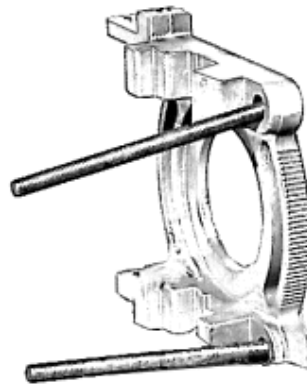

Figure 4-10: Mini Elevation Plate
9. Slide two mounting bracket bolts through the mini-elevation plate as is shown in Figure 4-10.
5. Slide two mounting bracket bolts through the mini-elevation plate as shown in Figure 4-10.